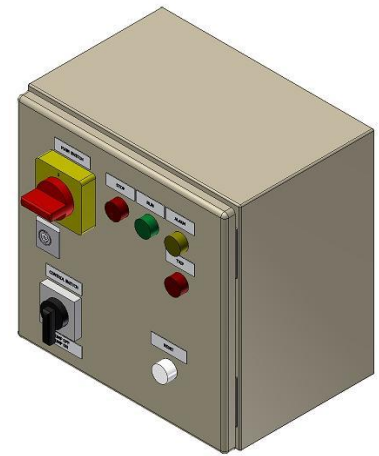

Figure 4.2-7
- Main power switch (red/yellow in Figure 4.2-7) is connected to the motor protection relay. Positions "0" (zero) and "1". The contact breaker controls the main power to the HX-unit, including the HX control unit.
- Pump power switch (black and white in Figure 4.2-7), positions "0" (zero) and "1". The contact breaker controls the power to the HX-unit pump (PU11). The pump can be started by turning the switch to position "1", and stopped by turning it back to position "0".
- LS11 leak sensor reset switch (white in Figure 4.2-7) resets the leak alarm. To reset the alarm, the liquid must first be removed from the sensor on the HX-unit leakage plate.